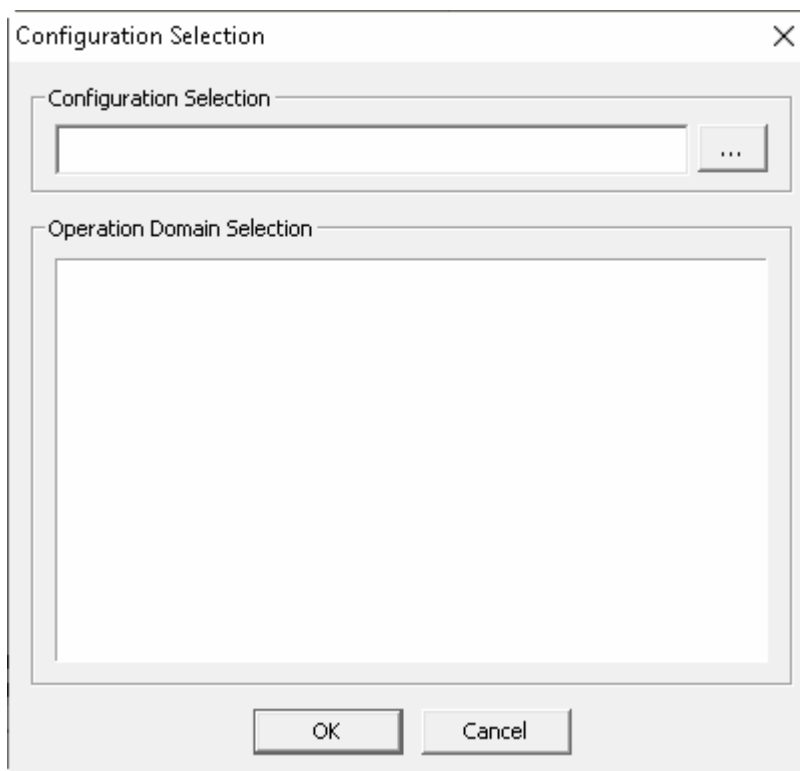

Figure 4-1 Configuration Selection Dialog Box (In High-performanceHMI)
- 1) Choose one of the ways to open “Configuration choice” interface, which is shown in Figure 4-1:
- 2) Click  button in Figure 4-1, pop up “open” dialog box, select configuration file, click “open”, display full file path in input box of “Select configuration”.